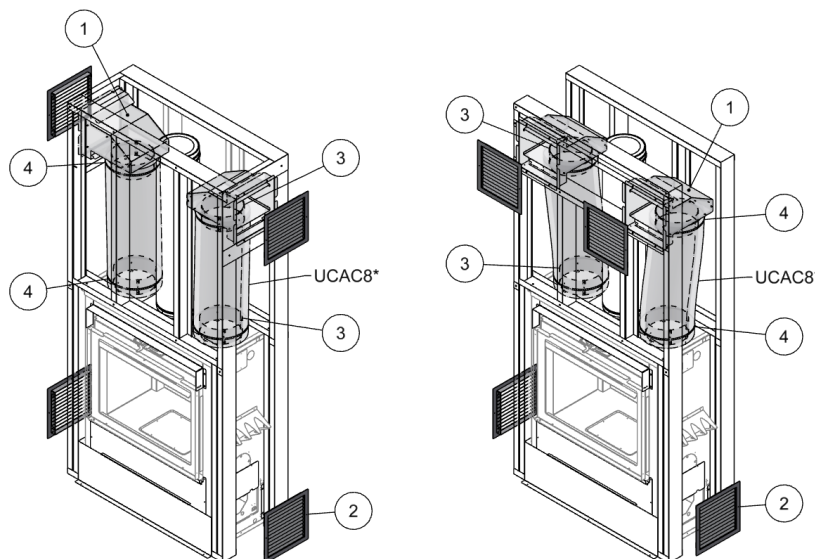

Figure 3-17: Astra Duo 8" Dual Louver Gravity Ducts Installation with Outtakes.
The Clean Face Surround comprises no louvers; however, an intake into the chase and an outtake through gravity ducts is required for this configuration. The instructions below describe the installation of the intake openings, and the gravity ducts/outtakes. Please note that the SUPREME KG550 Kit or LV32 Kit is required for the Gravity Kit installation (Figures 3-17 and 3-18). Note that openings for the intake and the outtake are to be incorporated in the construction of the chase (refer to Section 3.7). Note that the duct adaptors are included in the Gravity Kits.
3. Within the outtake opening, fasten the 10" Louver Diffuser (Item 1 of Figure 3-17) to the framing with the 8" Duct Adapter (Item 3 of Figure 3-17) facing the downward position. Repeat for the other outtake.
4. Measure the distance between the 8" Duct Adapter on top of the unit to the 8" Duct Adapter on the 10" Louver Diffuser and cut the 8" Insulated Flex Duct (Item UCAC8 of Figure 3-17) to the necessary length. Repeat for the other outtake.
5. Complete the connections by sliding the 8" Insulated Flex Ducts over the 8" Duct Adapters and secure the connections with the 8" Worm Gear Clamps (Item 4 of Figure 3-17).
6. Install the 10" X 10" Louver Grids (Item 2 of Figure 3-17) once the chase has been completed (refer to Section 3.7).